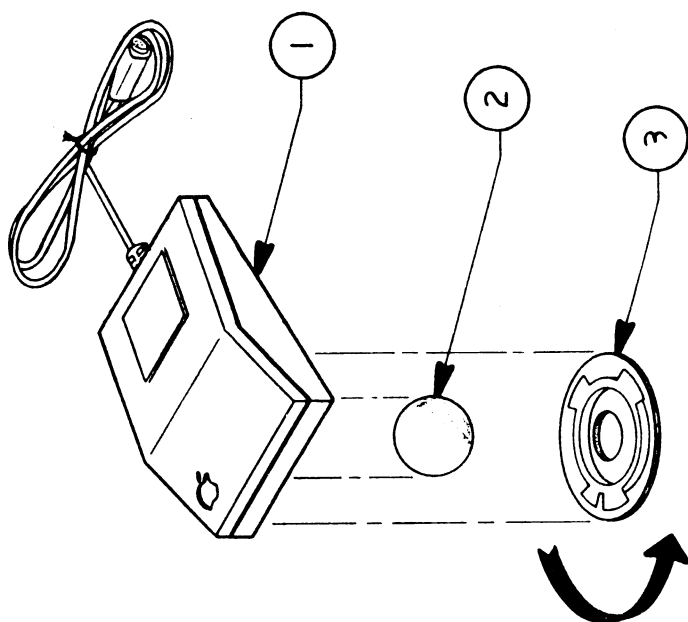

FIGURE 4
□ APPLE IIgs – MOUSE (Figure 4)